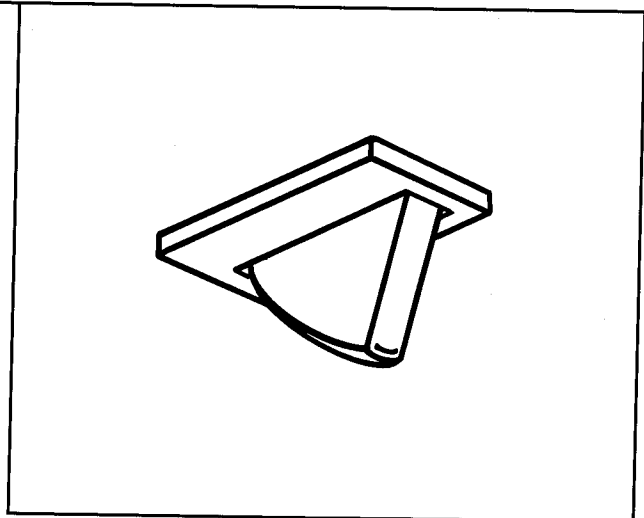

Figure 74
a. Ease door slowly shut and visually observe if refrigerator doorliner engages on/off light switch to assure door is shutting off light when door is in closed position. See Figure 74.